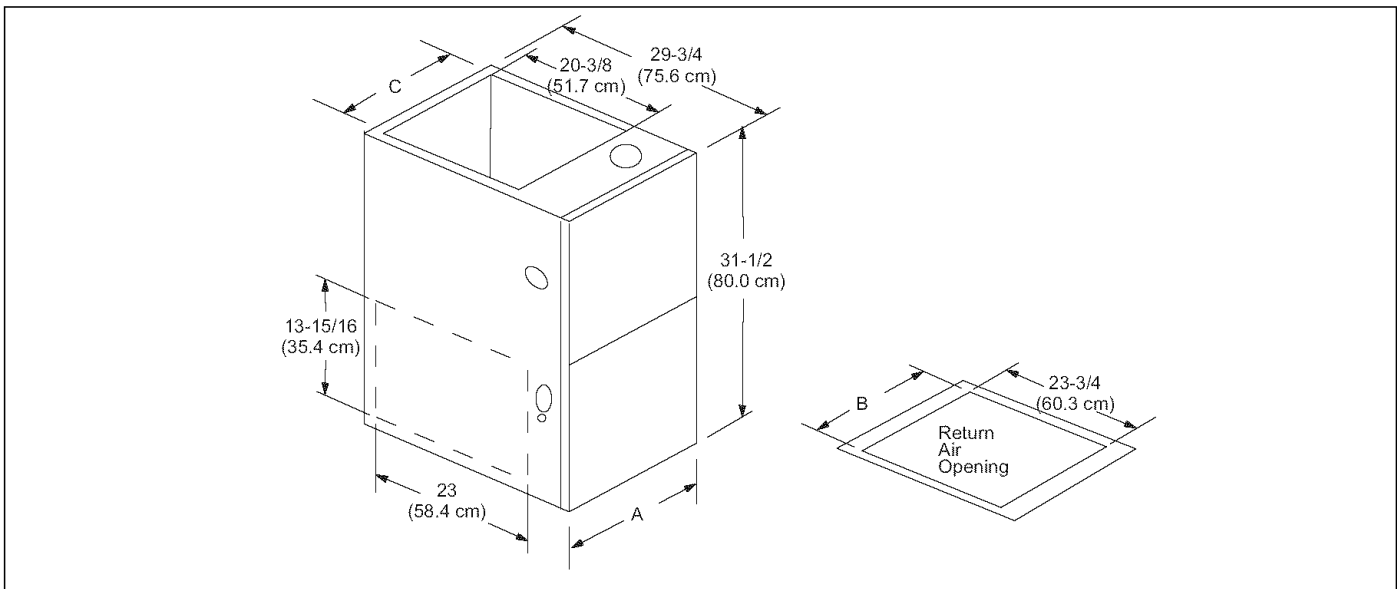

FIGURE 1: Dimensions
1. Bend the 3/4" (1.905 cm) flanges that will be used to attach the return air plenum using the scribe marks in the furnace base. Refer to Figure 1 for flange locations.
2. Be sure to seal the furnace to plenum connections to prevent air leakage. Refer to Figure 1 for unit and plenum dimensions.
Locate and knock out the square corner locators. These indicate the size of the cutout to be made in the furnace side panel. Refer to Figures 1 and 6.
Some accessories such as electronic air cleaners and pleated media may require a larger side opening. Follow the instructions supplied with that accessory for side opening requirements. Do not cut the opening larger than the dimensions shown in Figure 1.
2. Install the external filter box to the side of the cabinet and secure to the cabinet as specified in the instructions provided with the air filter kit. If a side return is to be used, cut out the side of the casing 14" high by 16 1/4" wide using the lances in the casing side as a guide. DO NOT CUT THE OPENING LARGER THAN 14" X 16 1/4". It is not permissible to cut out the back of the furnace. For bottom returns, place the external filter box between the return air plenum and the base of the furnace. The casing bottom is embossed to indicate where to bend the flanges. Refer to Figure 1 for the maximum return air opening sizes. Seal this connection to prevent leaks.